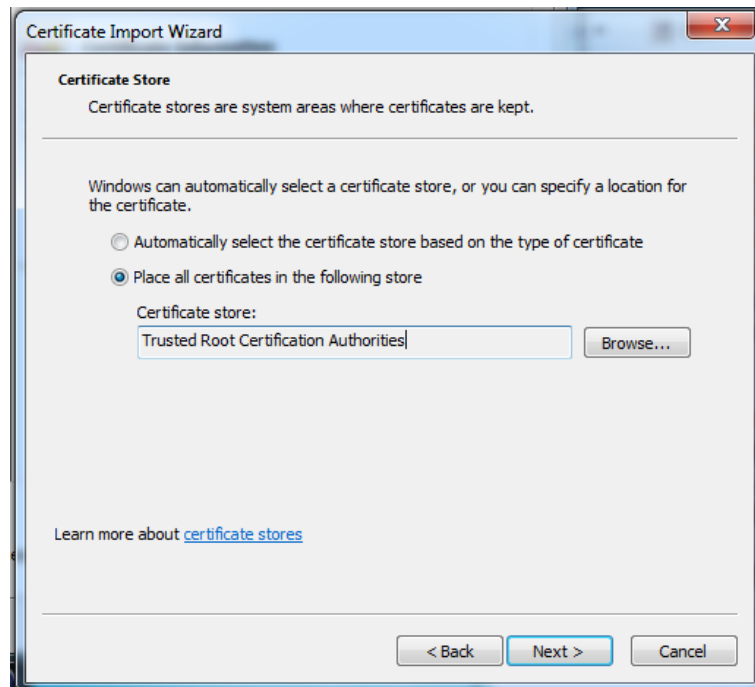

Figure 6-70
3. Click Next, see Figure 6-70.